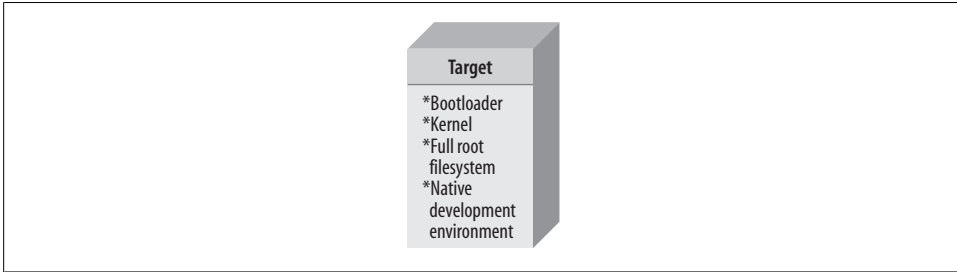

Figure 2-3. Host/target standalone setup
**Here, the target is a self-contained development system and includes all the required software to boot, operate, and develop additional software. In essence, this setup is similar to an actual workstation, except the underlying hardware is not a conventional workstation but rather the embedded system itself.** Figure 2-3 illustrates this setup.